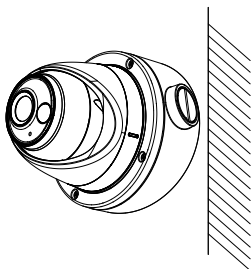

Figure 2-8 Fix the Camera to the Inclined Ceiling Mount
5. Install the inclined ceiling mount's body on the ceiling/wall with four PA4 × 25 screws, as shown in Figure 2-8.